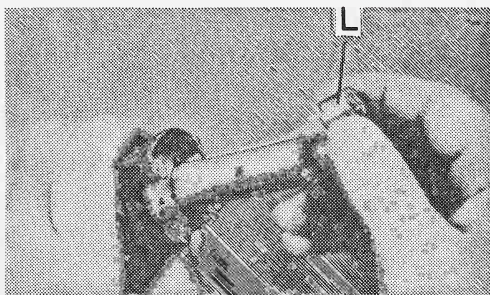

Fig. 10-38.
6. Refer to Figs. 10-38 and 10-39. Slip the plunger (L) inside the empty spindle, making sure that the tab (L1) on the turn button aligns with the locking slot (E1). Again depress the slide and work the plunger in all the way. Release the slide so the plunger will lock into position.